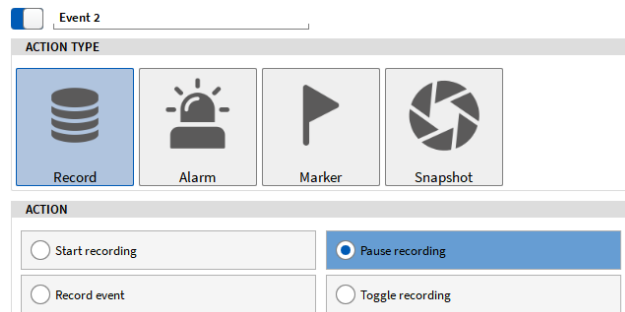

Figure 7-24: Pause Recording Action Type
- Select *Pause recording* as *Action Type* (see Figure 7-24):